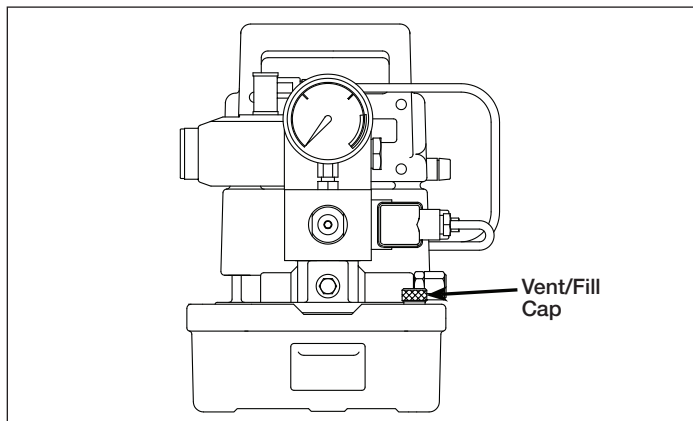

Figure 4, Vent/Fill Cap
Check the oil level by unscrewing and removing the vent/fill cap (see Figure 4). Add Enerpac hydraulic oil until the oil level is 1/2 inch [1 cm] below the vent/fill cap opening.
3. Open the pump vent/fill cap located on the front right corner of the reservoir by turning it 1 or 2 complete turns (see Figure 4).